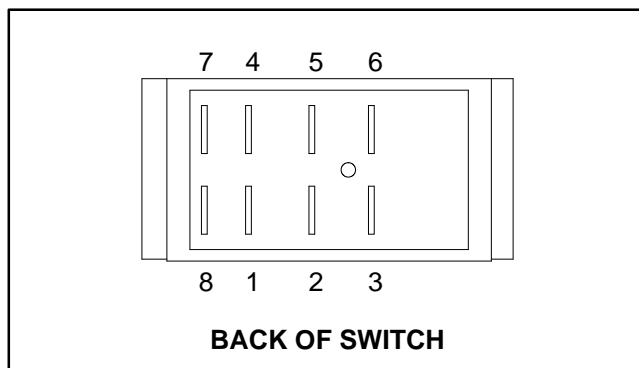

Figure 19
4. The switch terminals are marked as shown in Figure 19. The circuit logic of the sonic boom switch is shown in the chart to the right. With the use of a multimeter (ohms setting), the switch functions may be tested to determine whether continuity exists between the various terminals for each switch position. Verify continuity between switch terminals. Replace switch if testing identifies a faulty switch.